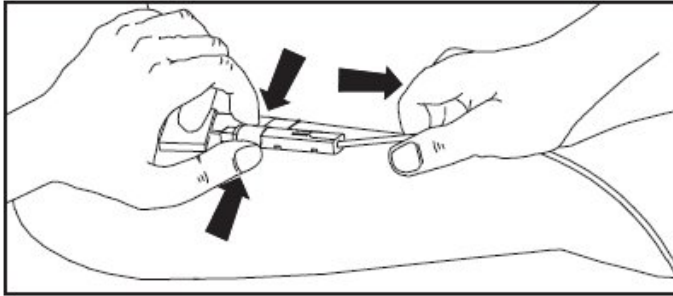

Figure 3
20. **Withdrawal of Needle** (see Figure 3)